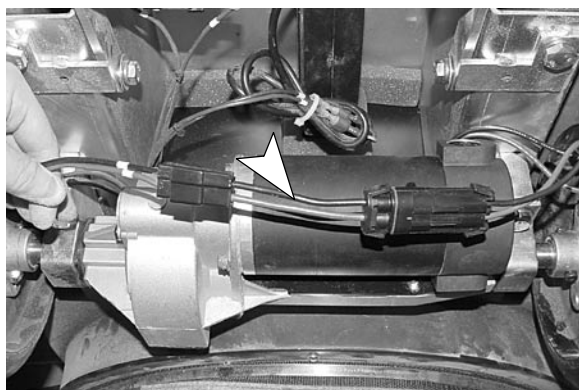

Fig. 6
8. Connect the transaxle wiring to the machine using the transaxle wire adapter supplied with the kit (Figure 6).